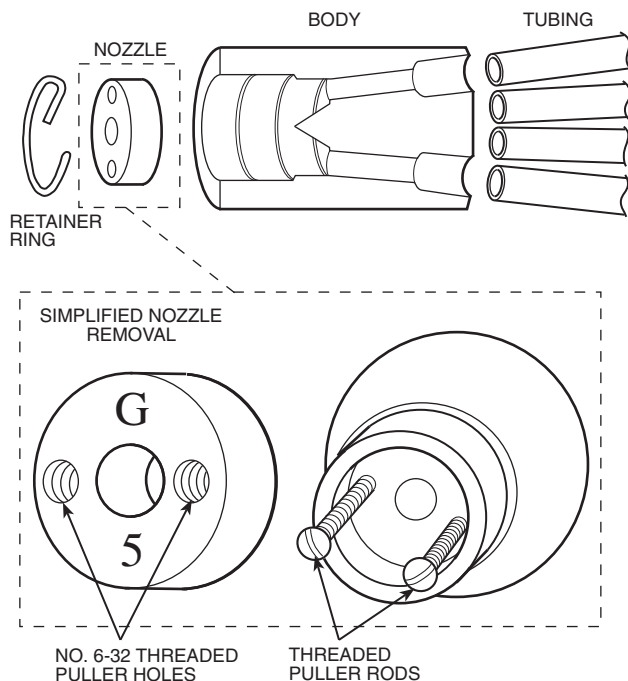

Fig. 106 — Nozzle Change-Out
4. Remove nozzle from distributor by inserting 2 no. 6-32 threaded rods (at least 4 in. long) into the threaded holes provided in the nozzle. See Fig. 106.